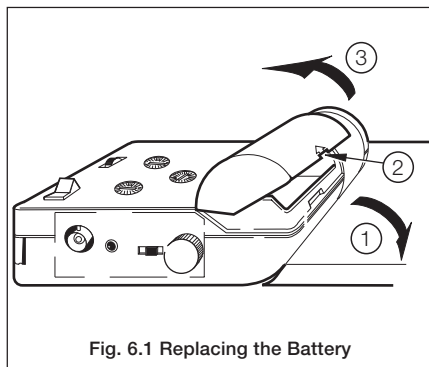

Fig. 6.1 Replacing the Battery
**6.1 Replacing the Battery – Fig. 6.1**